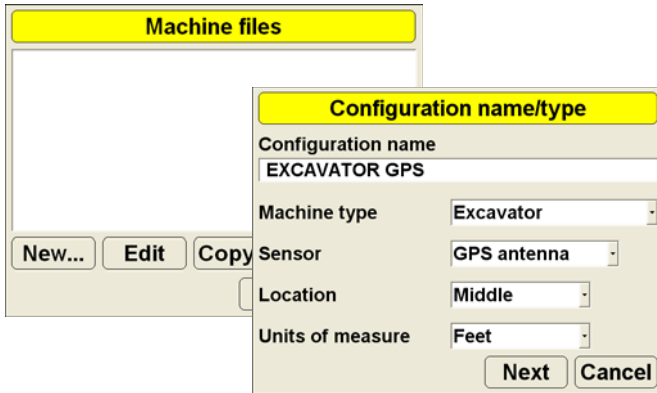

Figure 4-10. Create Machine Configuration File
1. With the control box on, press **Topcon Logo** ▶ **Control** ▶ **Machine setup** to display the *Machine files* dialog box (Figure 4-10 on page 4-15).
2. Press **New** to begin creating a machine configuration file (Figure 4-10 on page 4-15). Enter the following information and press **Next**: